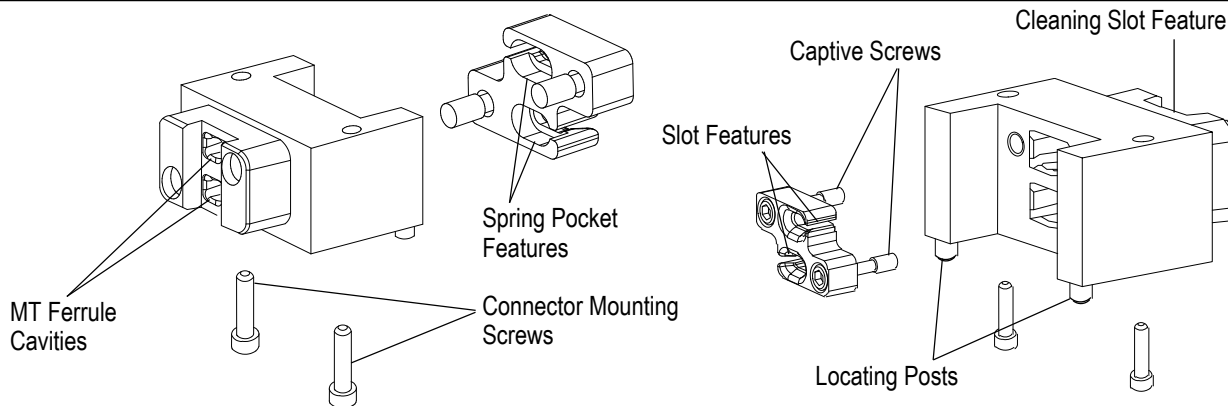

Figure 3
B. Plug (Module) Connector Kit (Figure 3)